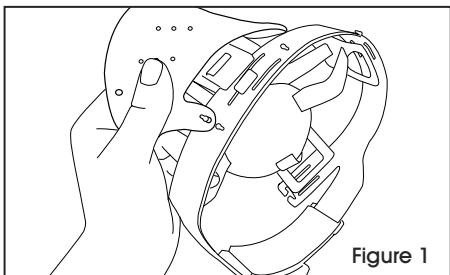

Figure 1
1. Attach flap to the upper hook on the plastic suspension, so the sponge side is facing towards the plastic. (See Figure 1)